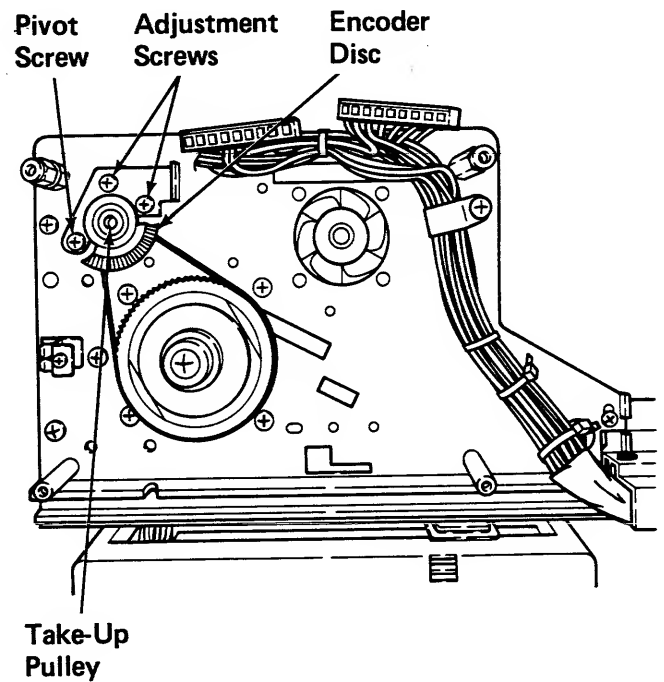

Figure 3-9.2A
3. Loosen the Pivot Screw and Adjustment Screws (Figure 3-9.2A) securing the Film Advance Motor.